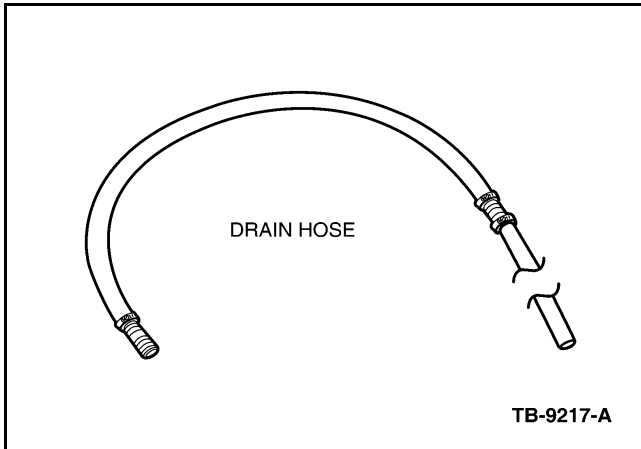

Figure 3 - Article 10-7-5
- c. Using a 3/4" (19 mm) coupling adapter and hose clamps, attach a 2' (61 cm) length of heater hose to the remaining section of garden hose to be used as the drain hose. (Heater hose will prevent kinking in tight areas of the engine compartment). (Figure 3)